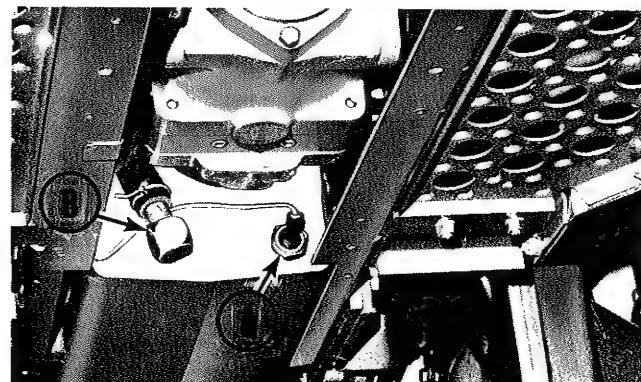

Figure 35. Front of transmission as seen from beneath the tractor with dust shield removed.
CHANGE THE TRANSMISSION OIL (FLUID): See figure 35. DO NOT RUN THE ENGINE WITHOUT OIL IN THE TRANSMISSION. The transmission case is divided into two compartments. Both the oil temperature sending unit (A) and the pipe fitting (B) on the front of the transmission must be removed to drain the transmission completely. Warm oil will drain best. The tractor should be operated at least 1/2 hour to warm the oil before draining the transmission. Proceed as follows:
2. Remove the wire from the oil temperature sending unit (A).
4. Remove the spring clamp and hose from the pipe fitting (B).